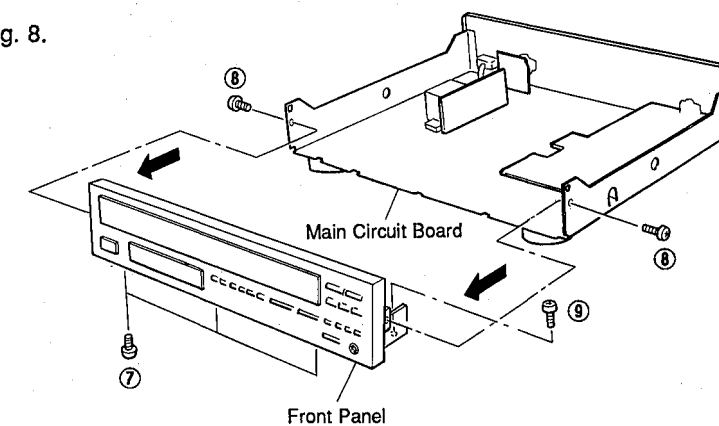

Fig. 8
a. Remove 5 screws, ( ⑦, ⑧ ) and also 1 screw ( ⑨ ) as shown in Fig. 8.
b. Take off the Front Panel Unit slowly as shown in Fig. 8.